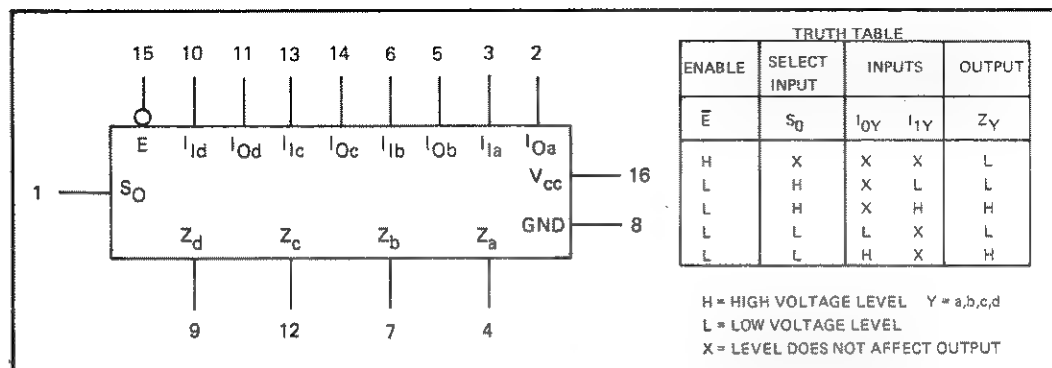

Figure 4-4. Quad Two-Input Multiplexer (1820-0616 or 1820-0710)
4-12. The quad two-input multiplexer shown in Figure 4-4 consists of four multiplexing circuits with common select and enable logic. The enable input (E) is active low. When not activated all outputs (Z) are low regardless of all other inputs. The quad two-input multiplexer is the logical implementation of a four-pole two position switch, with the position of the switch being set by the logic level supplied to the one select input.